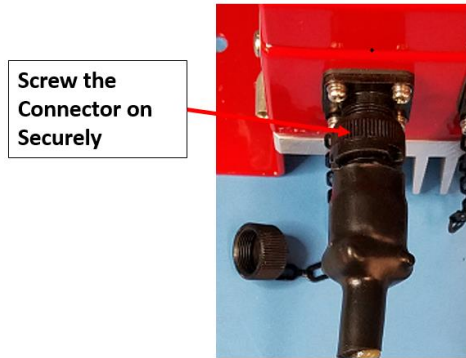

Figure 5-9: Power Cable Connected to Signal Booster
2. Connect the power cable to the AC 110V power connector on the Signal Booster, Figure 5-9.